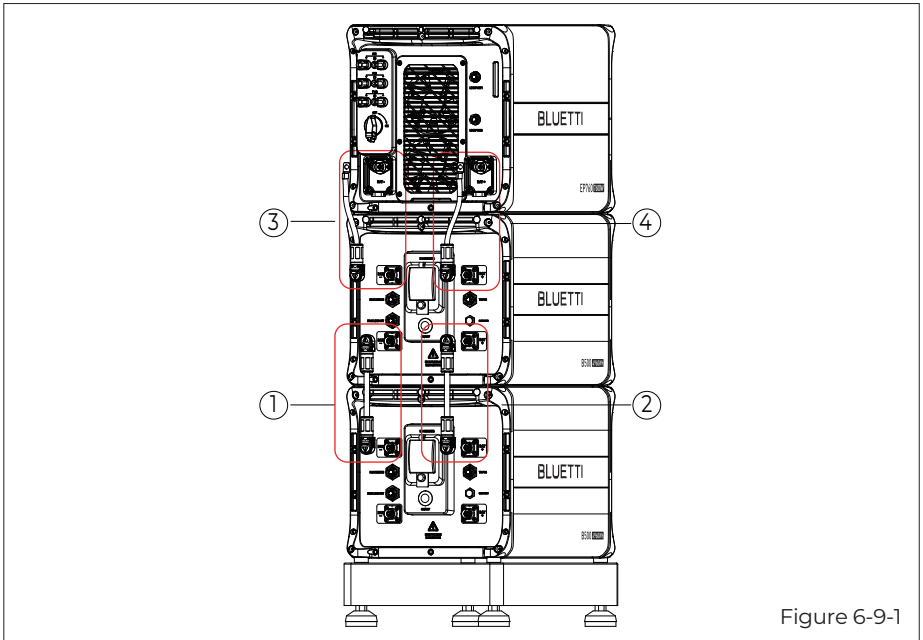

Figure 6-9-1
**Step 1:** Connect two B500 battery packs via the battery expansion cables - black cable for negative terminals, red for positive terminals. See “①” “②” of Figure 6-9-1 and 6-9-2.
**Step 2:** Connect the top B500 to EP760 inverter via the battery power cables - black cable for negative terminals, red for positive terminals. See “③” “④” of Figure 6-9-1 and 6-9-2.